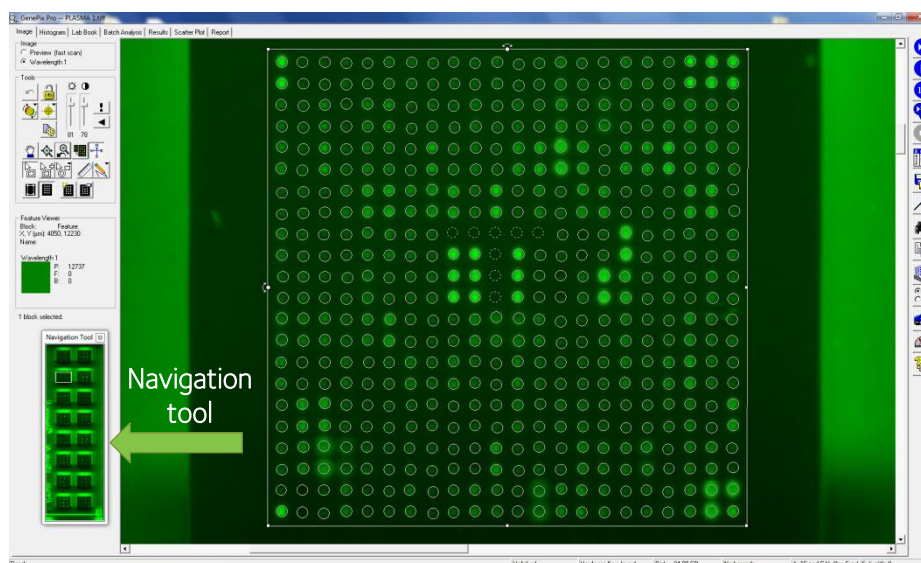

Figure 21 - Zoomed pad
In 'Zoom Mode' (Z), left-click and drag a box around the first pad to be analysed; the pad will fill the window. Use the horizontal and vertical scroll bars as required to reposition the pad inside the window. The screen should now look like Figure 21.